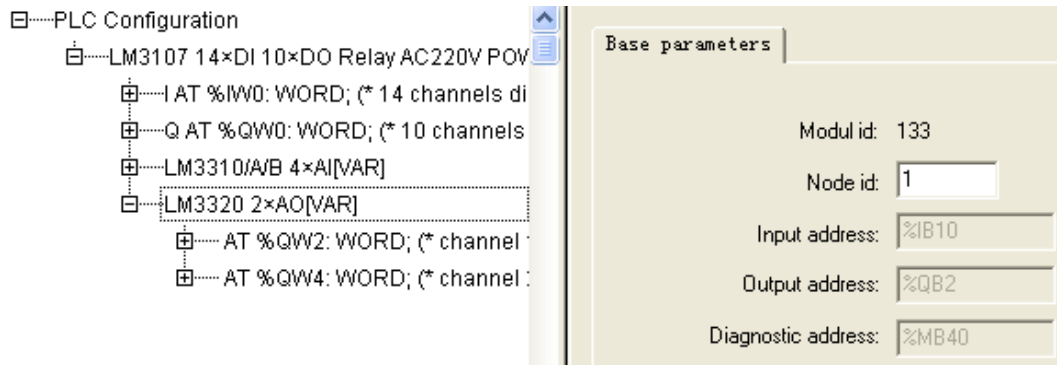

Figure 5-1-2
Input value of Address in Application example should be consistent with the node id in PLC configuration in figure 5-1-2.
- When EN is set and retains, Analog_OUT modules are scanned. As shown in figure 5-1-2, the scanned values of four channels are stored in registers %QW2, and %QW4 respectively.
- Before calling Analog_OUT, PLC must be configured (shown in figure 5-1-2) and Hollysys_PLC_Analog.lib must be added.